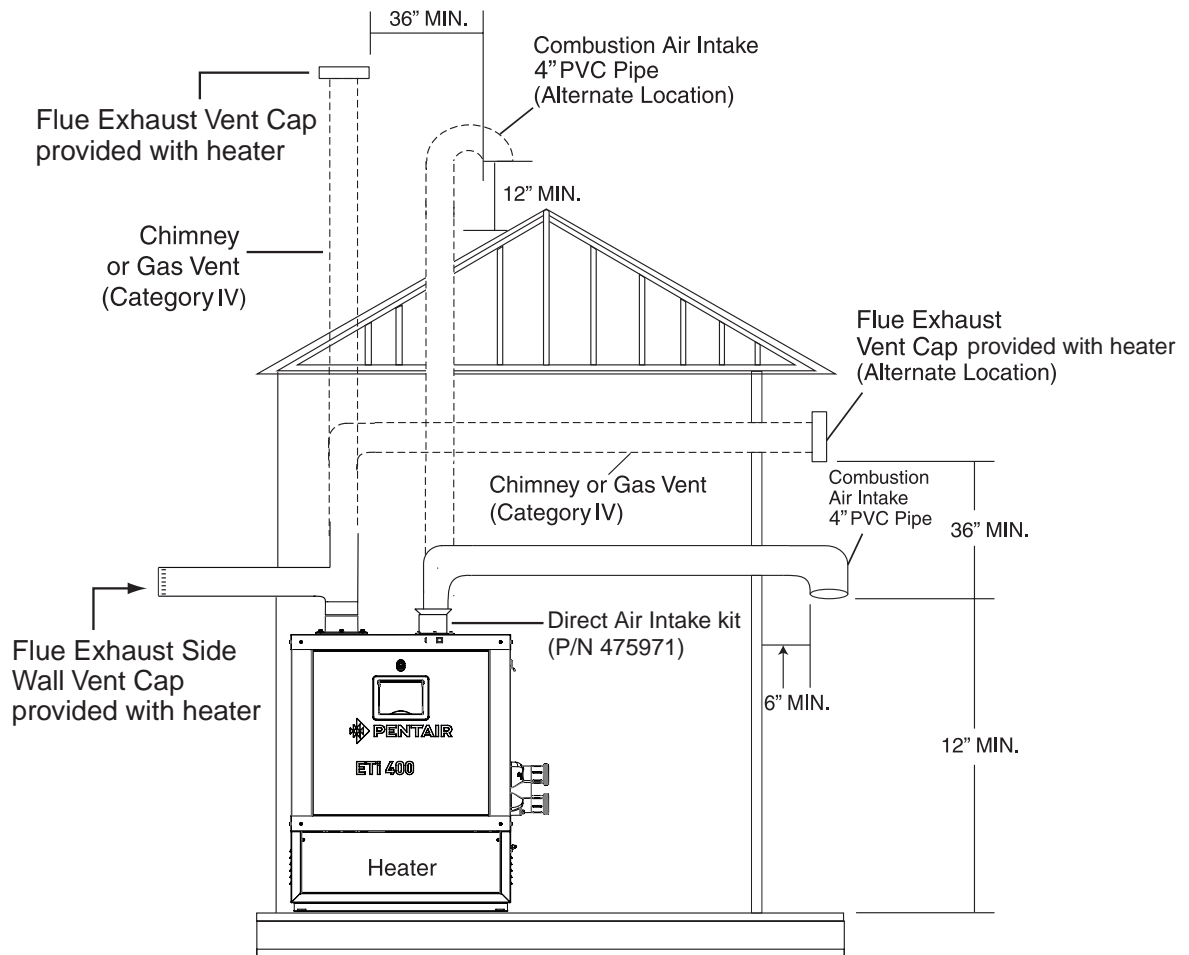
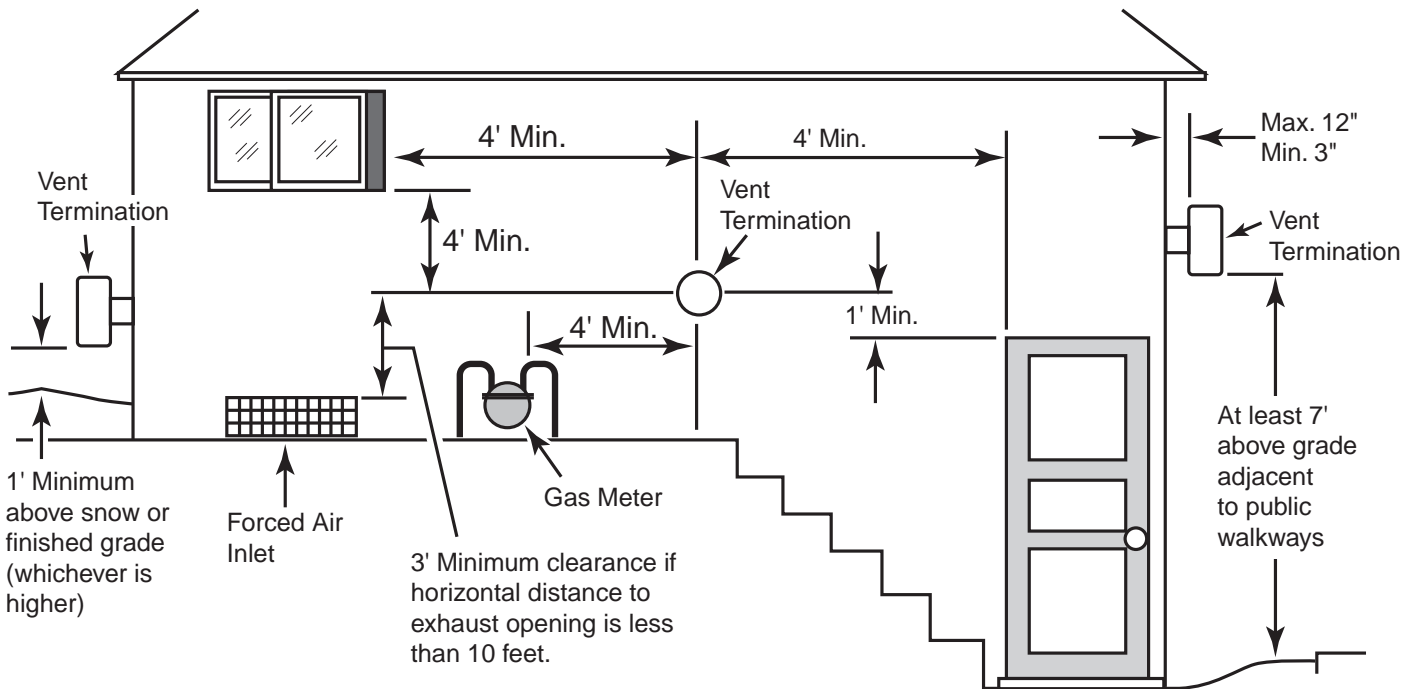
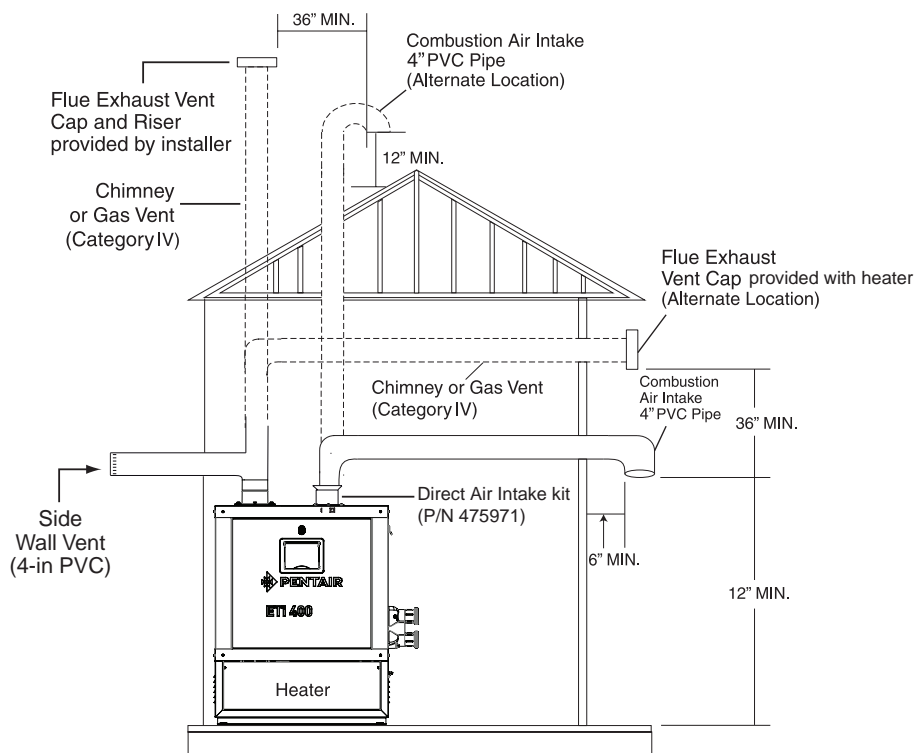

Figure 21.
Figure 24.
Figure 26.
An appliance that operates with a *positive* vent static pressure and with a vent gas temperature that allows excessive condensate production in the vent, see Figure 21 (page 28) and Figure 24, page 36.
The air intake opening MUST be installed at least 1 ft. above the roof line or normal snow levels for free air flow. The Category IV exhaust vent termination cap must have at least 3 ft. (1 m) minimum vertical clearance from air intake duct, see Figure 21.
**(See Figure 28, page 32 and Figure 26, page 34)**
3. **Vent Termination:** Vertical (See Figure 24 below and Figure 26 on page 34), for height of vent termination above the roof. Use an *Approved* vent terminal specified by local and national codes and your manufacturer’s instructions. A roof termination must be vertical. In Canada, the Vent Cap location shall have a minimum clearance of 4 feet (1.2M) horizontally from electric meters, gas meters, regulators, and relief openings.
The terminal must be located (U.S. – See Figure 24 on page 32):
The terminal must be located (Canada – See Figure 24 on page 32):
The flue direct vent cap **MUST** be mounted on the exterior of the building. The direct vent cap cannot be installed in a well or below grade. The direct vent cap must be installed at least 1' (0.3 m) above ground level and above normal snow levels, see Figure 24, page 32. The direct vent cap **MUST NOT** be installed with any combustion air inlet directly above a direct vent cap. This vertical spacing would allow the flue products from the direct vent cap to be pulled into the combustion air intake installed above.
It is recommended that the intake vent (see Figure 26) be insulated in colder climates.